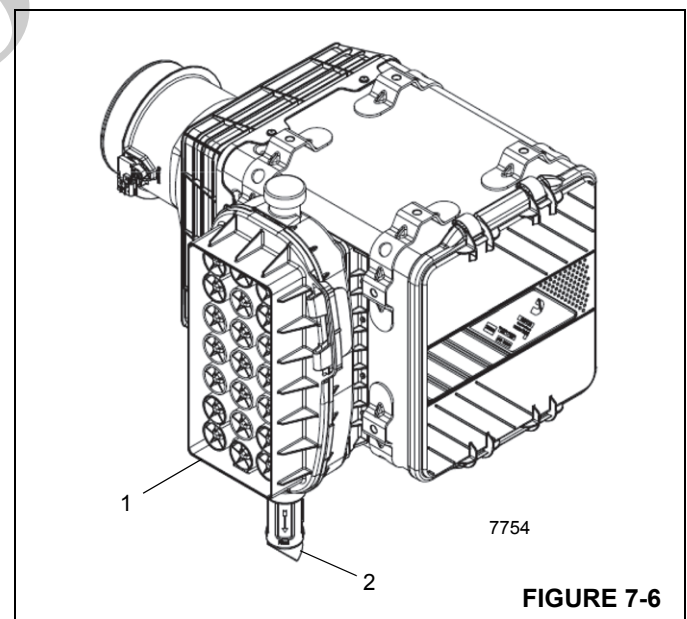
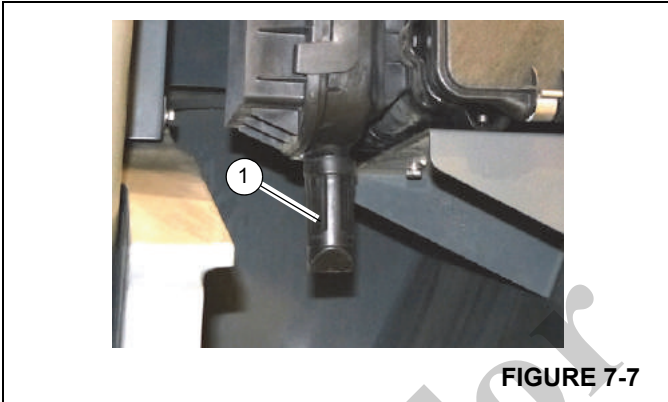

FIGURE 7-6
FIGURE 7-7
The precleaner (1) (Figure 7-6) prevents large debris from entering the air cleaner and should be cleaned periodically, especially when working in severe dust conditions. Remove the top half of the precleaner by releasing the two latches on the sides of the precleaner. Remove all debris from inside precleaner and reassemble.
Vacuator valves (2, Figure 7-6) (Figure 7-7) are designed to expel loose dust and dirt from the air cleaner body automatically, thus lengthening the element service life. The valve lips must point straight down and be kept free from debris to operate effectively. Mud and chaff can lodge in these lips periodically and hold them open during engine operation.